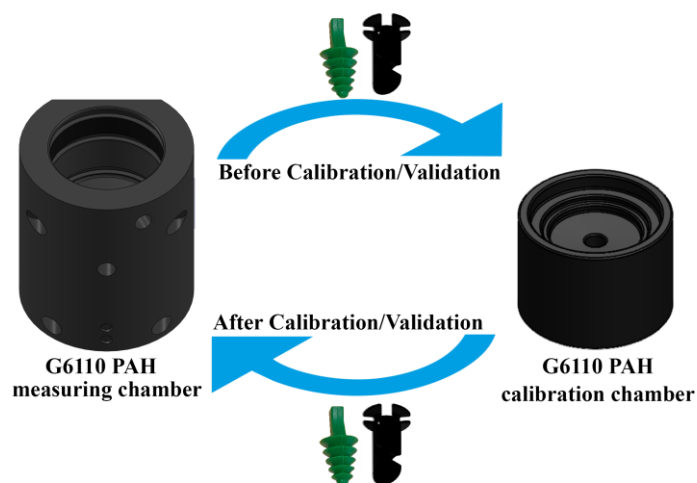

Figure 6-4: PAH Chamber Bushing Placement
Always place the PAH chamber bushing inside the chamber type that is in use. See Figure 6-4.
1. Remove the PAH chamber bushing from the PAH measuring chamber using the PAH chamber bushing tool – Figure 6-4. Clean the bushing thoroughly.
5. Insert the PAH chamber bushing into the PAH calibration chamber refer to Figure 6-4.
10. Place the PAH chamber bushing in the PAH measuring chamber again. Please refer to Figure 6-4.